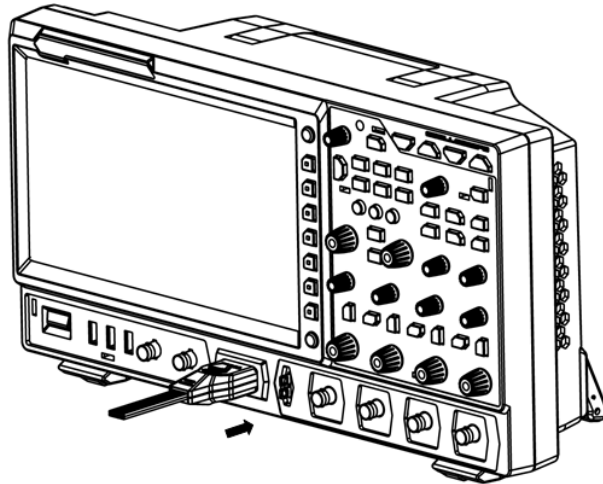

Figure 7.6 Connect the logic probe
1. Connect the output terminal of the logic probe to the digital channel input terminal on the front panel of the oscilloscope in the correct direction, as shown in *Figure 7.6*.